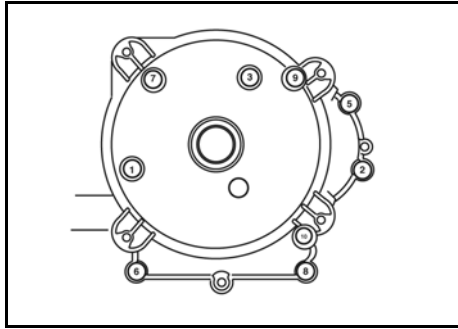

Figure 22
- Figure 22 - Vertical Shaft Models 210000, 280000, 310000, and 330000.